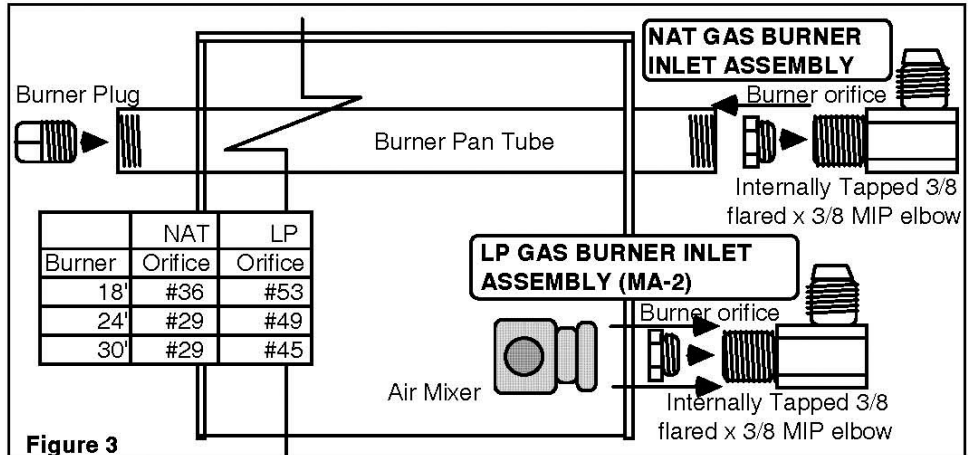

Figure 3
STEP ONE: Burner Pan Fittings (Figure 3).
- **Natural Gas Burners** (F, FX, CS) Insert the appropriate **Burner Orifice** (see chart at Figure 3) into the **Internally Tapped 3/8 Flared x 3/8 MIP Elbow** and wrench tighten. (Orifice and Fitting are provided with Burner Pan).
- **Propane Gas Burners** (FA, FA-X, CA) requires **MA-2 Air Mixer Assembly** (see Figure 3). Insert the appropriate **Burner Orifice** (see chart at Figure 3) into the **Internally Tapped 3/8 Flared x 3/8 MIP Elbow** and wrench tighten. Thread the **Air Mixer** onto the **3/8 Flared x 3/8 MIP Elbow** and wrench tighten with air intake holes positioned horizontally (parallel to the floor). **LP Models must use the MA-2 Air Mixer Assembly.**